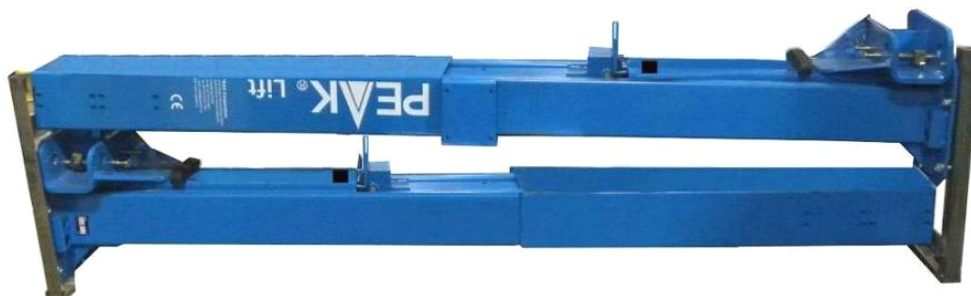

Fig. 8
3. Take off the lifting arms and parts box from upper and inside the column, then move them to location nearby installation site (See Fig. 8).